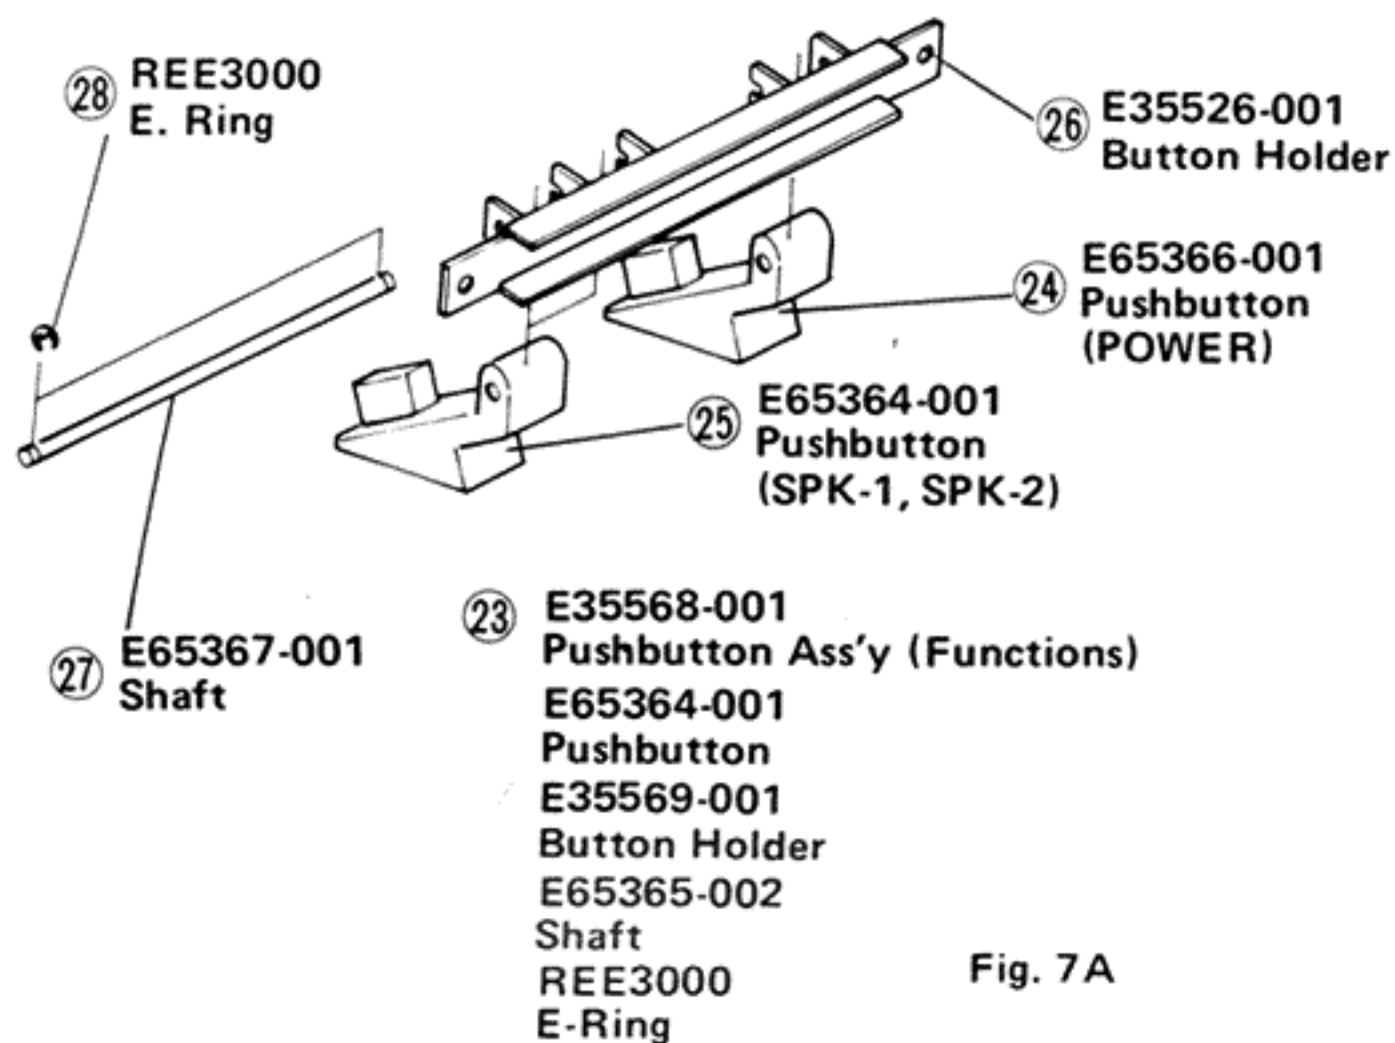

Fig. 7A
2. Pushbuttons will be removed. Refer to Fig. 7A.